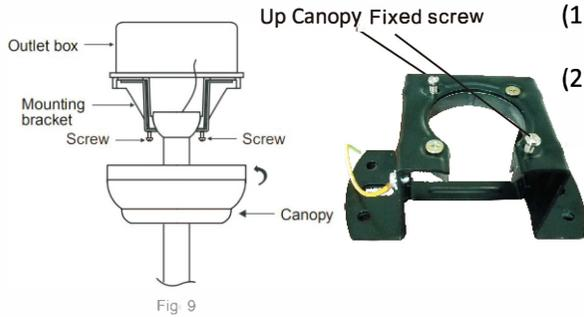

Fig 9
(2) Rotate the motor assemble until the "Check Tab" on the mounting bracket has dropped into the "Registration Slot" on the hanging ball and seat firmly (Fig.7 Fig.8 Fig.9)
( Fig.9)